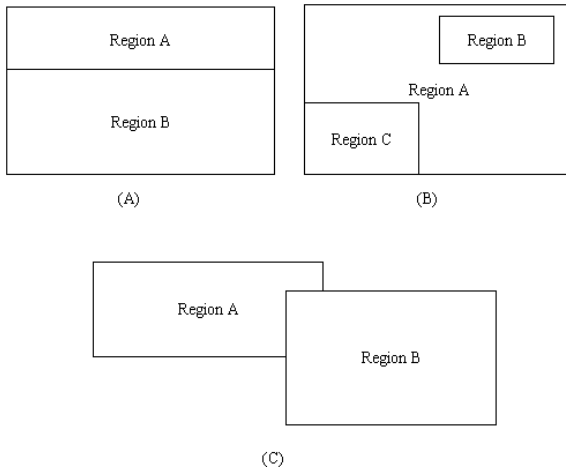
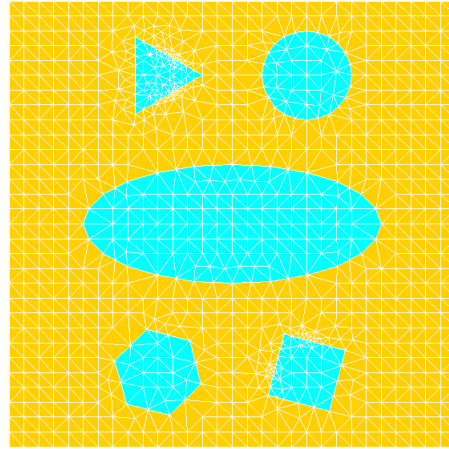

Figure 1: Multi-Region definition.
Figure 2: Define shapes of ellipse region
Several regions can be defined one by one. But users should be careful that regions can't get cross each other. The situations showed by Fig1 (A) and (B) are allowed, but (C) will break the mesh generator of GSS. The ellipse region is used for photon crystal simulation. By choosing different division number, GSS can build triangle, rectangle, hexagon as well as ellipse (circle). Fig2 shows different shapes of polygons build by ellipse.